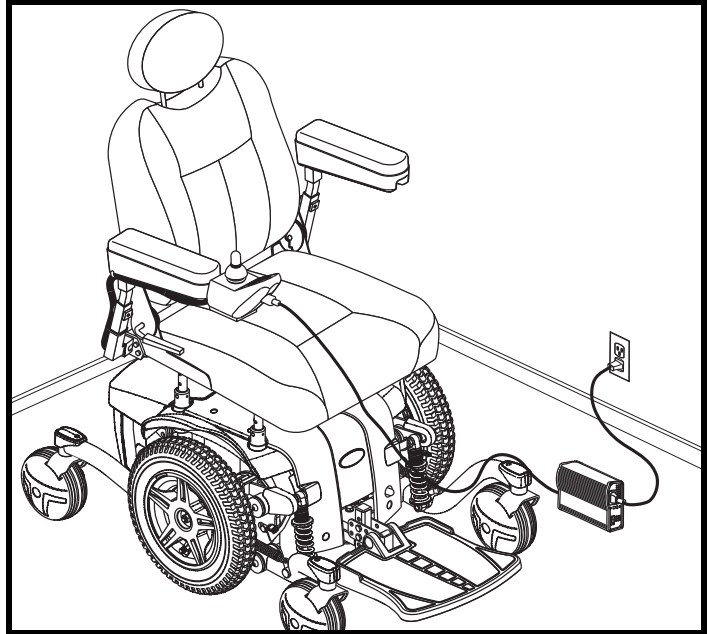

Figure 20. Battery Charging
3. Plug the off-board charger into the off-board charger/programming socket on the controller. See figure 20.